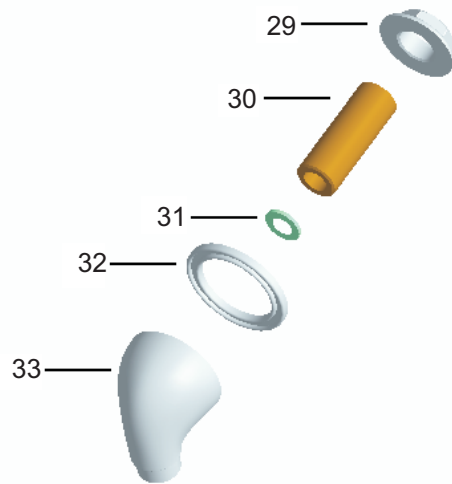

Fig. 2
4.4 Installation (Wall Outlet) (See Fig.2)